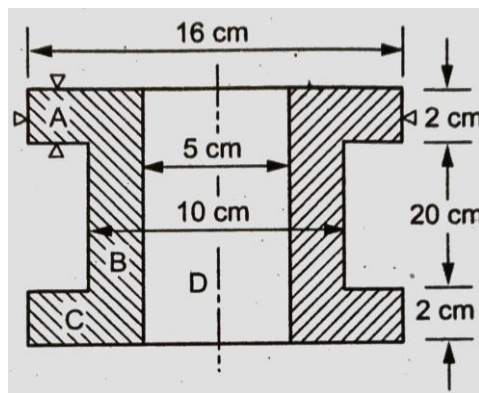

Fig.5
9. Estimate the total cost of 20 C.I flanged pipe casting shown in Fig.5, assuming the following data: Cost of C.I= Rs. 30/kg; Cost of process scrap = Rs. 7/kg; Process scrap = 2% of net weight of casting; Moulding and pouring charges = Rs. 15/piece; Casting removal and cleaning Rs. 5/piece; Administrative overheads = 5% factory cost; Selling overheads = 70% administrative overheads.